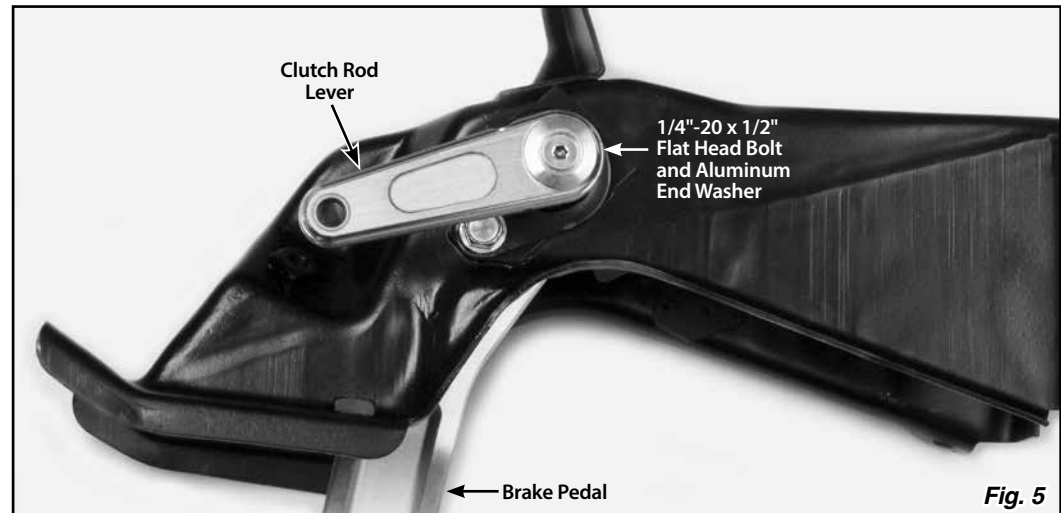

Fig. 5
- Step 5:** Connect the clutch rod lever to the original clutch pushrod (not included), and install it onto the right hand end of the splined shaft. Install the 1/4"-20 x 1/2" flat head bolt and aluminum end washer onto the right hand end of the splined shaft. **Fig. 5**